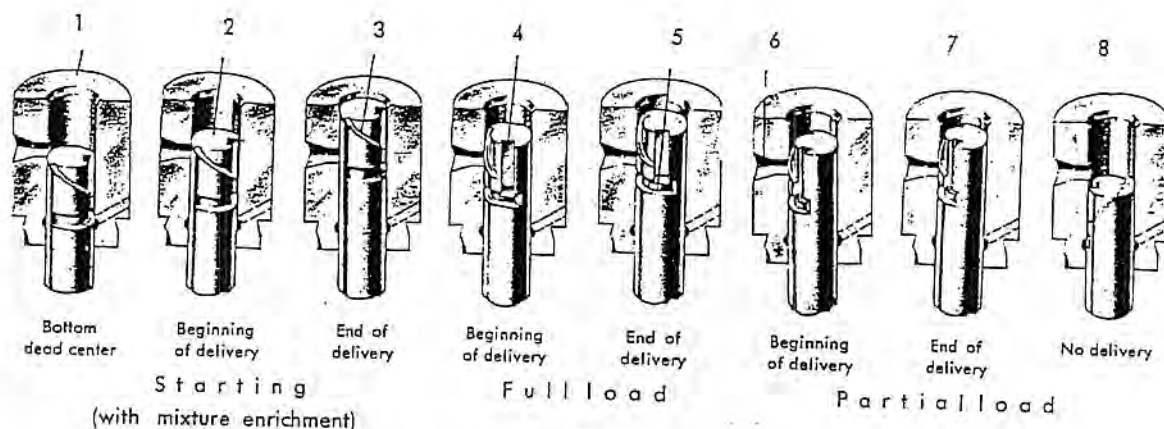

Fig. 07-10/8
The pump plunger is raised during the pressure stroke by the camshaft (21) via the roller tappet (23) and is pressed down during the suction stroke by the plunger spring (24) (see Fig. 07-10/6).
During the suction stroke, the plunger draws up fuel into the cylinder from the suction chamber through the inlet bore (6), and during the pressure stroke the fuel is forced into the pressure pipe through the pressure valve as soon as the helical control edge (3) has passed the inlet bore (beginning of delivery) (Fig. 07-10/8).